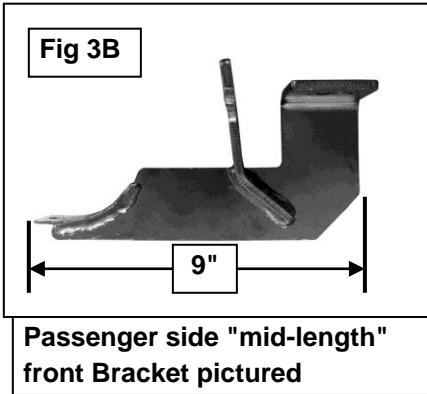

Fig 3B
4. Repeat **Steps 2 – 4** for Center and Rear Mounting Bracket installation. Use the instructions to correctly identify the Brackets, **(Figures 3B, 3C, 3D & 4)**.